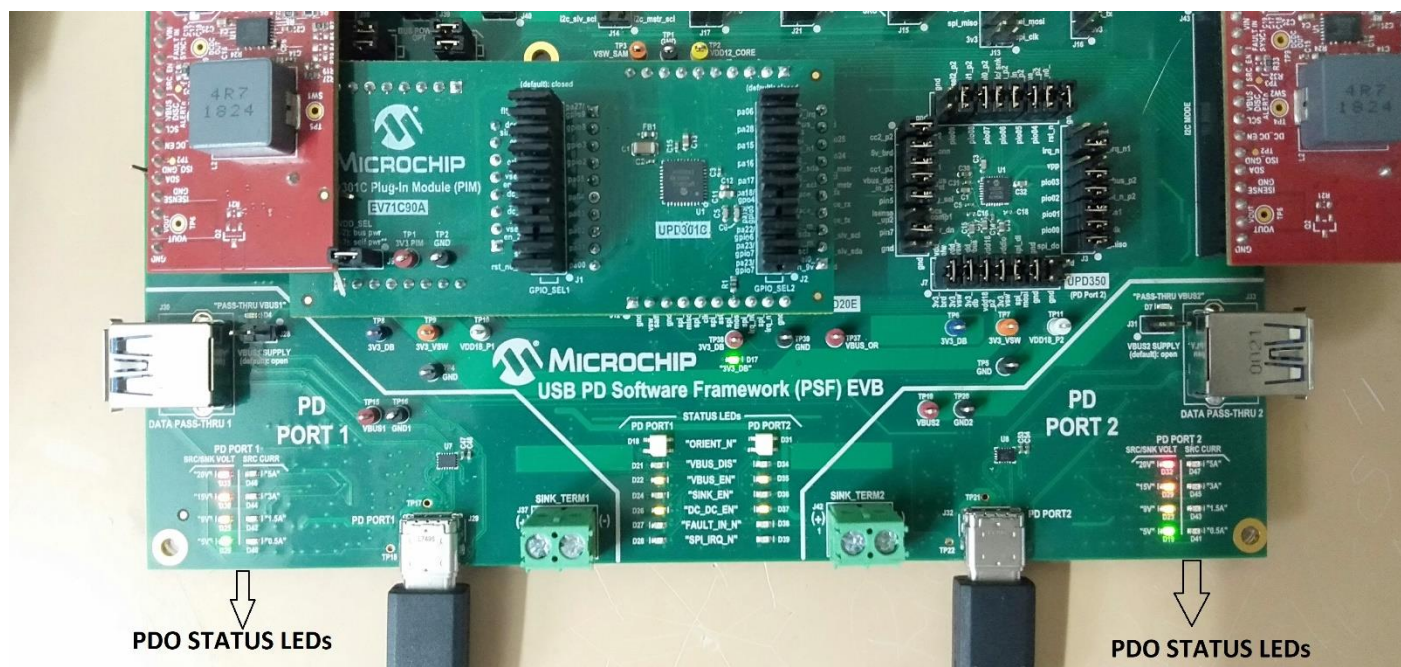

Figure 7.2 PDO Status LEDs after device attach
- Once an explicit power contract negotiation is in place, the device starts charging. PDO status LEDs will turn ON indicating the negotiated voltage as shown in Figure 7.2
- In our case, Microchip's UPD301C Basic Sink AE connected in Port 1 and Port 2 and have requested 20V. The status of PDO status LEDs is shown in Figure 7.2